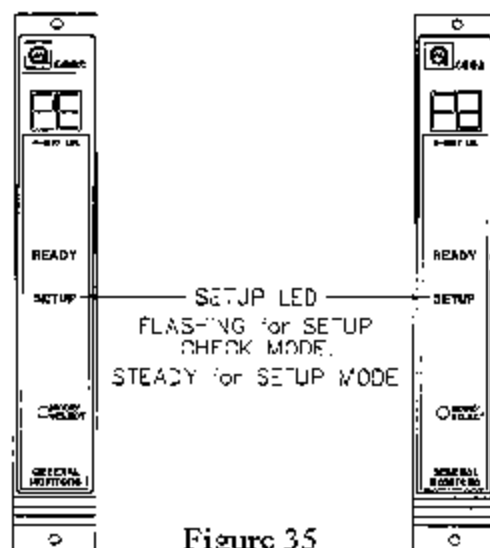

Figure 35
- Once the Card Test options have been selected, the user will either enable or disable the password option (figure 35). The display will indicate either **PE**, for enabled or **Pd**, for disabled. Password Disabled is the factory default for this selection.